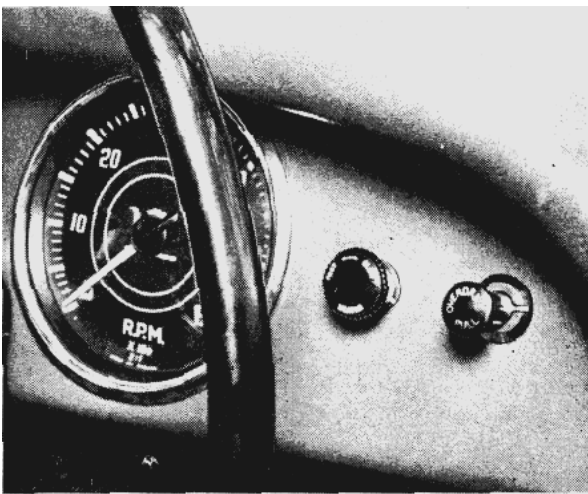

Fig. 39 Showing the position of the Overdrive Control.
R.H. Drive Cars. Two holes are pierced in the fascia panel on the R.H. side of the speedometer and covered with fabric. The fabric should be pierced through the extreme R.H. hole and the operating switch fitted (see Fig. 39). The remaining hole is used for a heater switch when fitted.